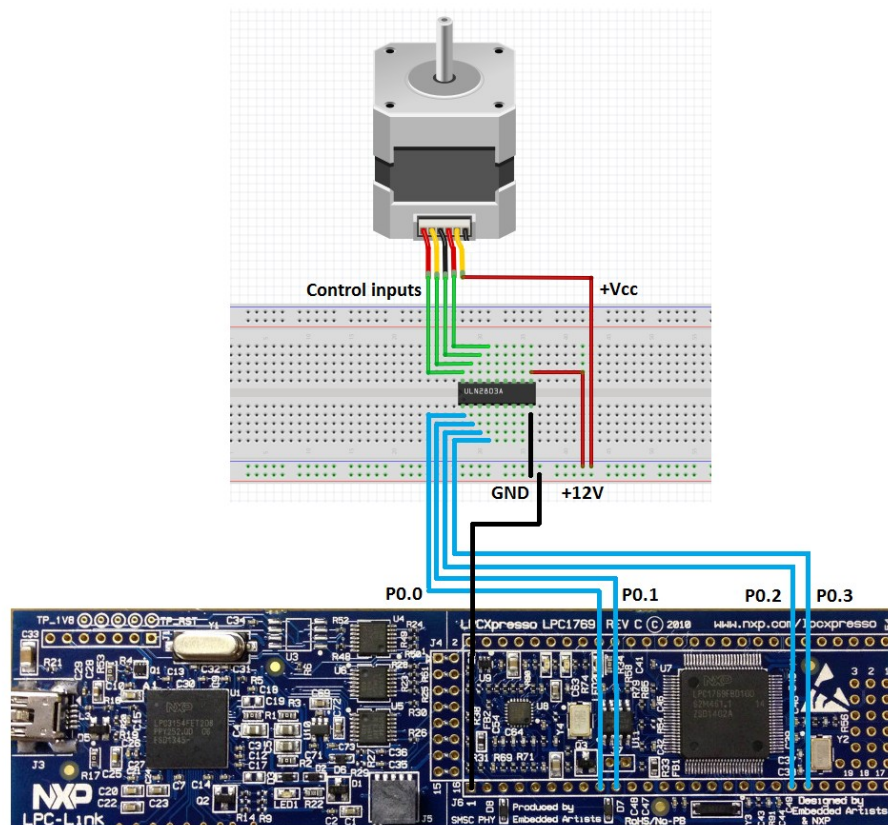

Figure 17
Stepper motors consist of a permanent magnetic rotating shaft, called the rotor, and electromagnets on the stationary portion that surrounds the motor, called the stator. Figure 17 illustrates one complete rotation of a stepper motor. At position 17, we can see that the rotor is beginning at the upper electromagnet, which is currently active (has voltage applied to it). To move the rotor clockwise (CW), the upper electromagnet is deactivated and the right electromagnet is activated, causing the rotor to move 90 degrees CW, aligning itself with the active magnet. This process is repeated in the